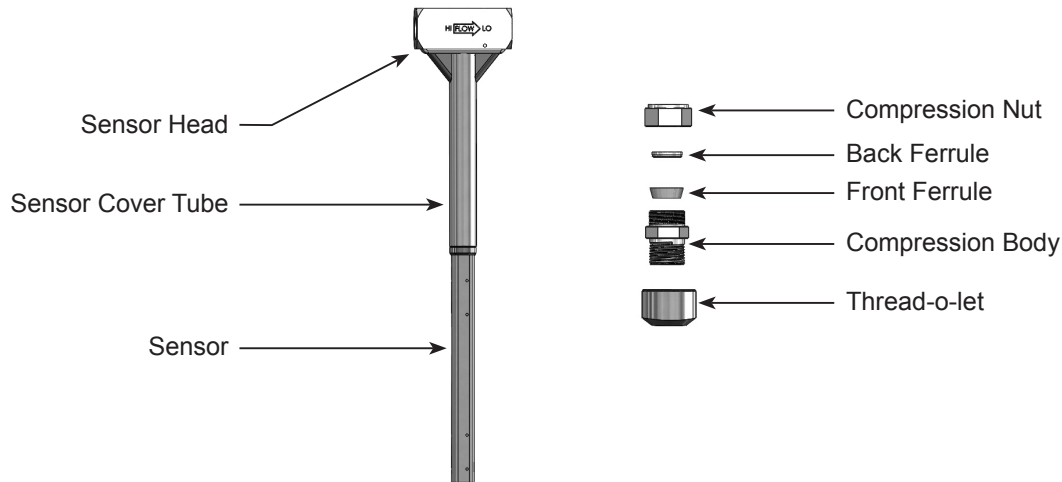

Figure 2. Verabar® Model V100
- Loosely assemble the sensor, compression nut, back ferrule, front ferrule and compression body to the thread-o-let (hand tight) and insert the sensor assembly into the pipe. The back ferrule and front ferrule must be in the proper sequence and orientation as shown in Figure 2.
- Slide the compression nut, back ferrule, then front ferrule, onto the covertube. **The back and front ferrules must be in proper sequence and orientation as shown in Figure 2.** The back ferrule must be next to the compression nut with the tapered end pointing toward the front ferrule. The tapered end of the front ferrule must point toward the compression body.